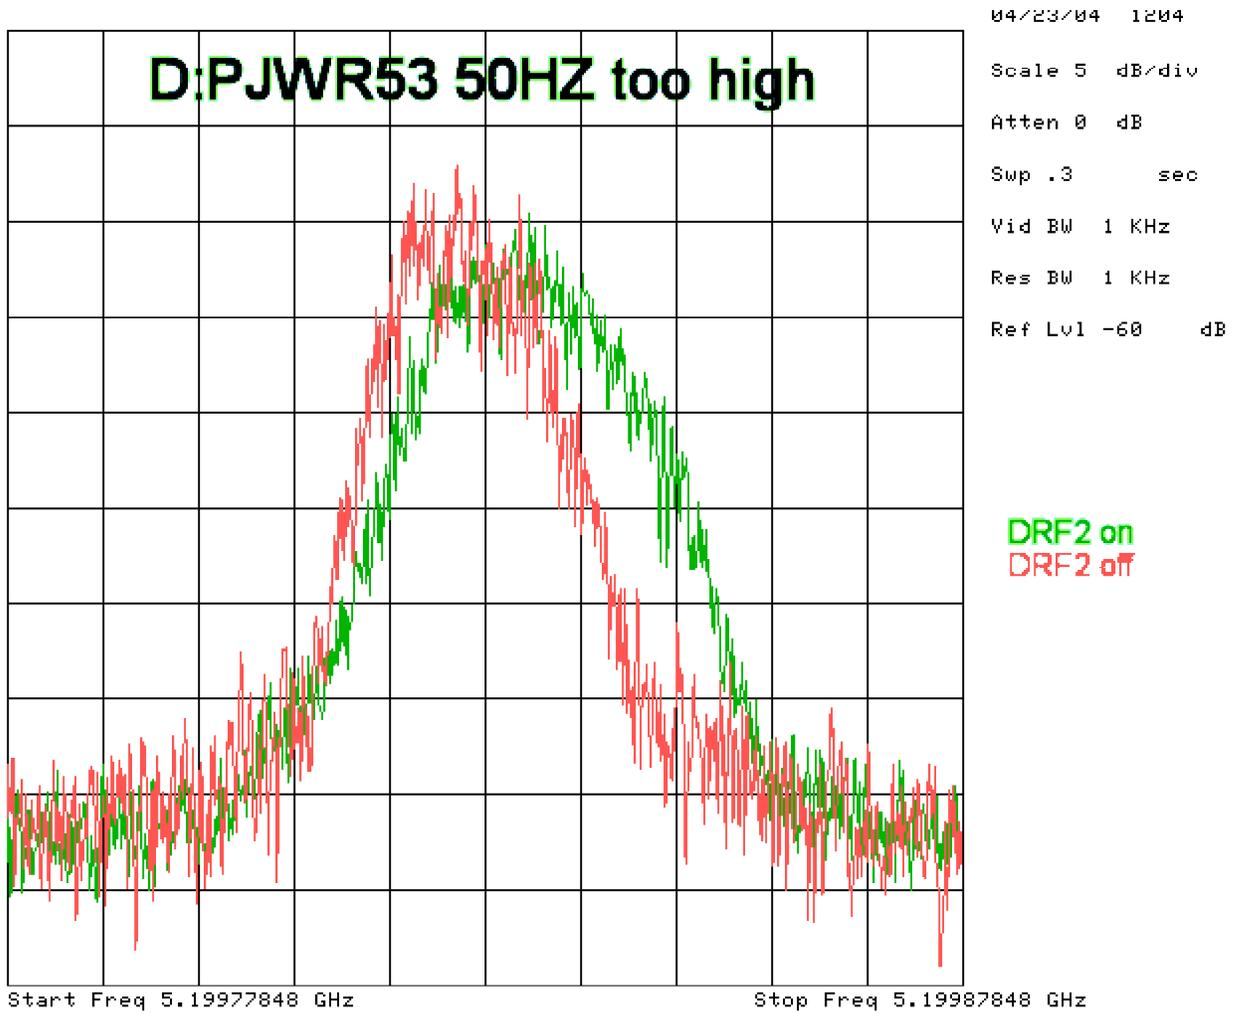

Figure 5: Green trace is with DRF2 on. Red trace is with DRF2 off. In this case D:PJWR53 too high by 50Hz.
5. Start a Fast Time Plot (as shown in Figure 5 below) that includes: